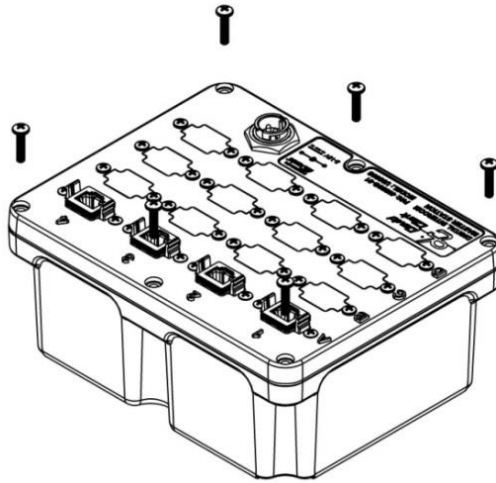

Figure 11.1 Main Cover Assembly
2. Remove the six main cover screws (**Figure 11.1**).
4. Place entire assembly back into enclosure bottom (**Figure 11.1**).